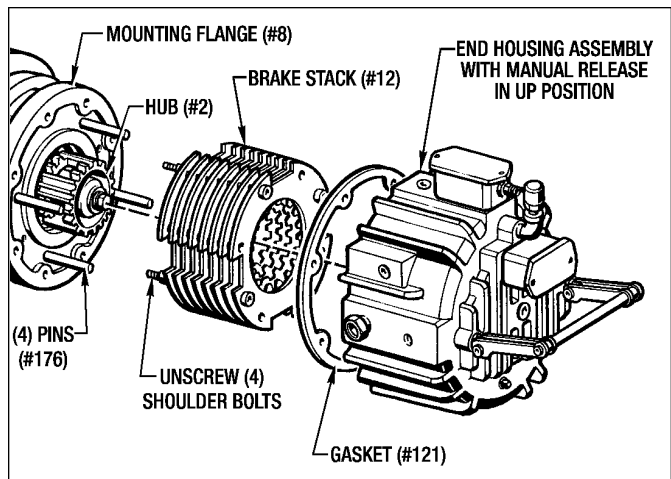

Figure 7.2 - Replacing the Brake Stack (MSB9 & MSB10)
(See Figures 7.2 and 8.1)
1. Remove the (8) Hex Nuts (#261 and (8) Lockwashers (#127) off of the (8) Studs (#72). Pull the End Housing (#9) off the Mounting Flange (#8). Remove the Gasket (#121) and discard it
2. The Brake Stack (#12) can now be removed by unscrewing the (2) Shoulder Bolts that attaches the Drive Plates to the Mounting Flange (#8). Pull the whole Brake Stack (#12) off the Hub (#2) spline and the (4) Pins (#176). (See Figure 7.2)